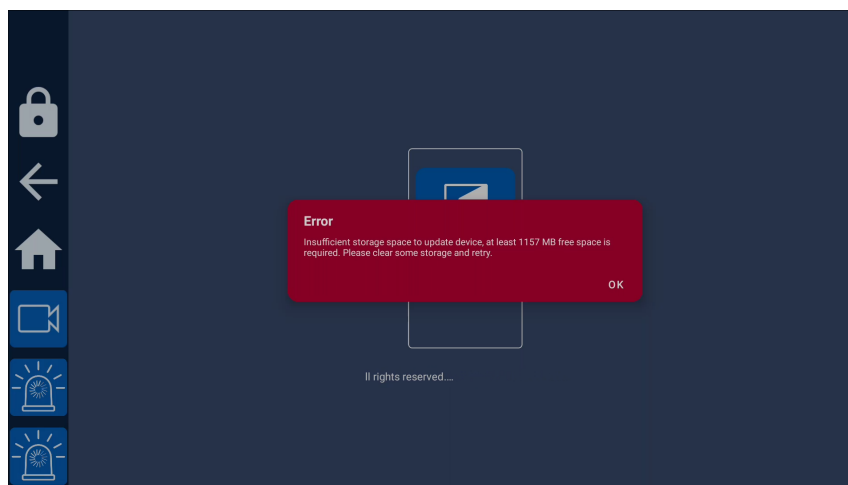
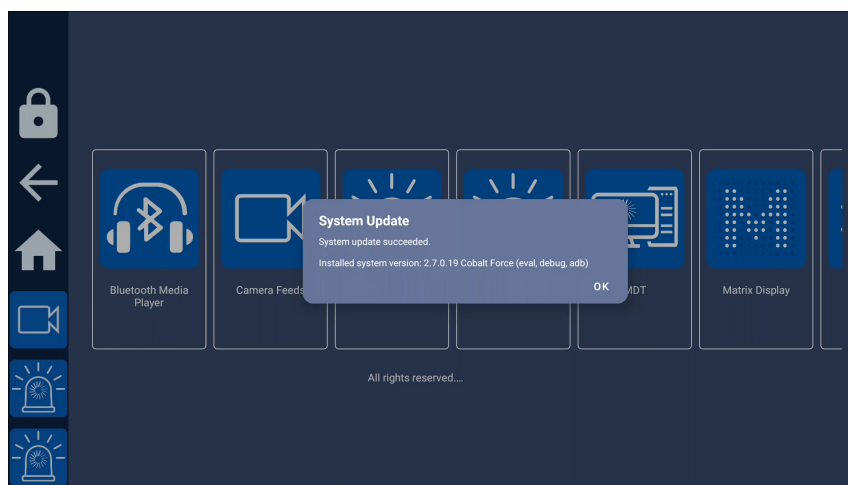

Figure 5: Not enough space warning
Figure 9: "Update successful" dialog
In some cases it will not be possible to save the update file to internal storage due to insufficient space being available. In these cases you will see an error dialog as in Figure 5. In this case you will need to clear some space on the Cobalt Cube internal storage before you will be able to apply the update.
4. The Cobalt Cube will install the update, and automatically reboot in the process. This may take a few minutes - do not power off the Cobalt Cube until the process is completed. If installing directly from the USB stick (see Figure 5) do not remove this from the Cobalt Cube.
The Cobalt Cube will automatically display a dialog notifying of the successful update after it has been rebooted. If installing directly from the USB stick (see Figure 5) the user will be prompted to say when it is safe to remove the USB stick (see Figure 9).